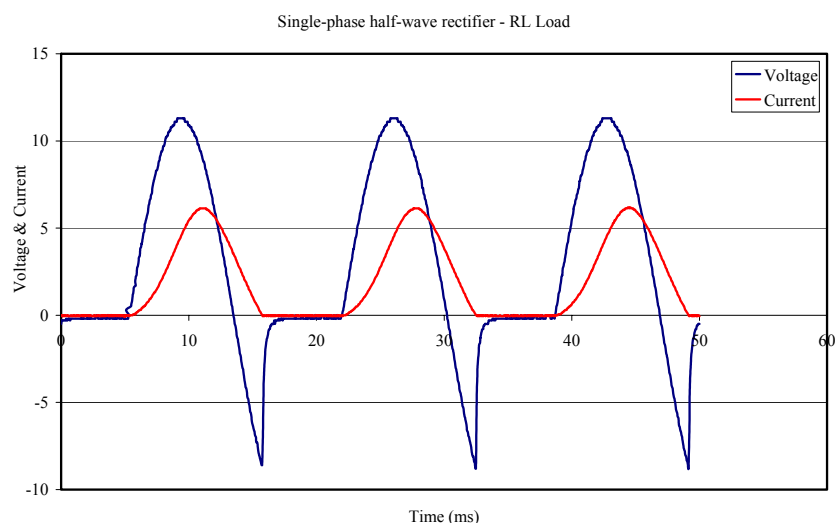

Figure 1-10 Single-phase half-wave rectifier without freewheeling diode
11. Repeat the experiment for the R & L values are shown in Table 1-1. Fig. 1-10 shows the voltage and current output waveforms for RL-Load without freewheeling diode